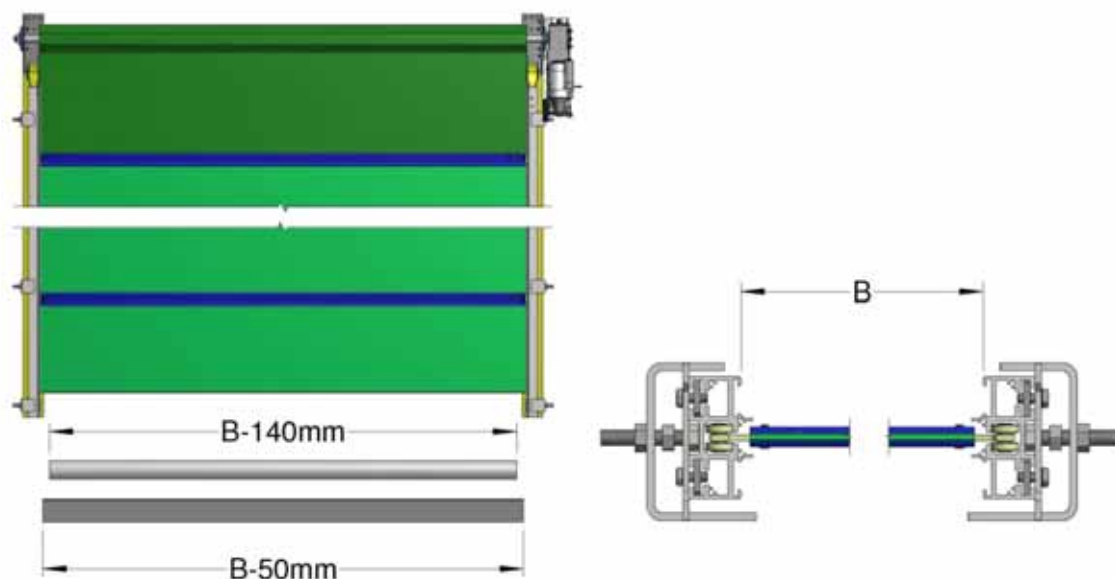

Figure 20, Cutting length of Bottom Tube and Flap
22. Cut the bottom tube and flap as shown in Figure 20 and deburr the ends. Make sure all burrs are removed from the flutes in the tube to prevent damage to the panel.